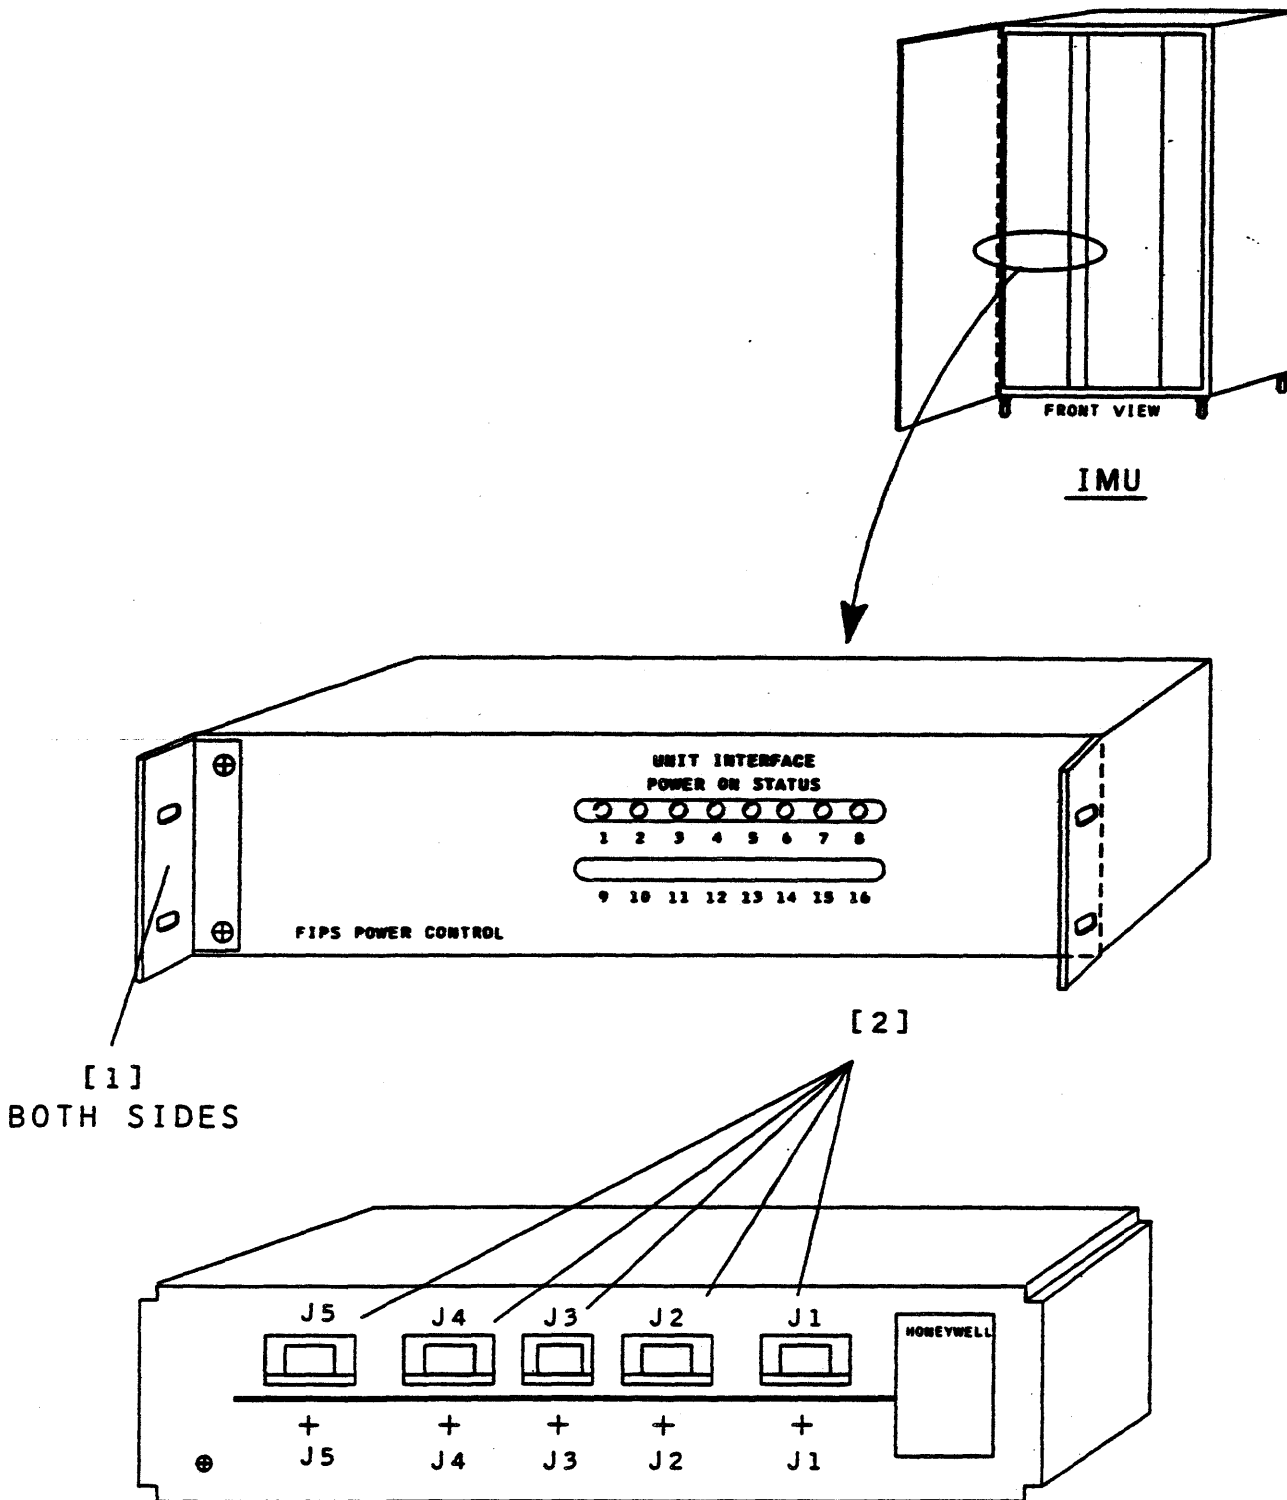

FIGURE 2.23-1. FIPS SEQUENCER MODULE REMOVAL/INSTALLATION
5. Using cross-tip screwdriver, remove regulator's front retaining hardware (Figure 2.23-1, [1]).
6. Disconnect connector plugs from rear of faulty module (Figure 2.23-1, [2]).